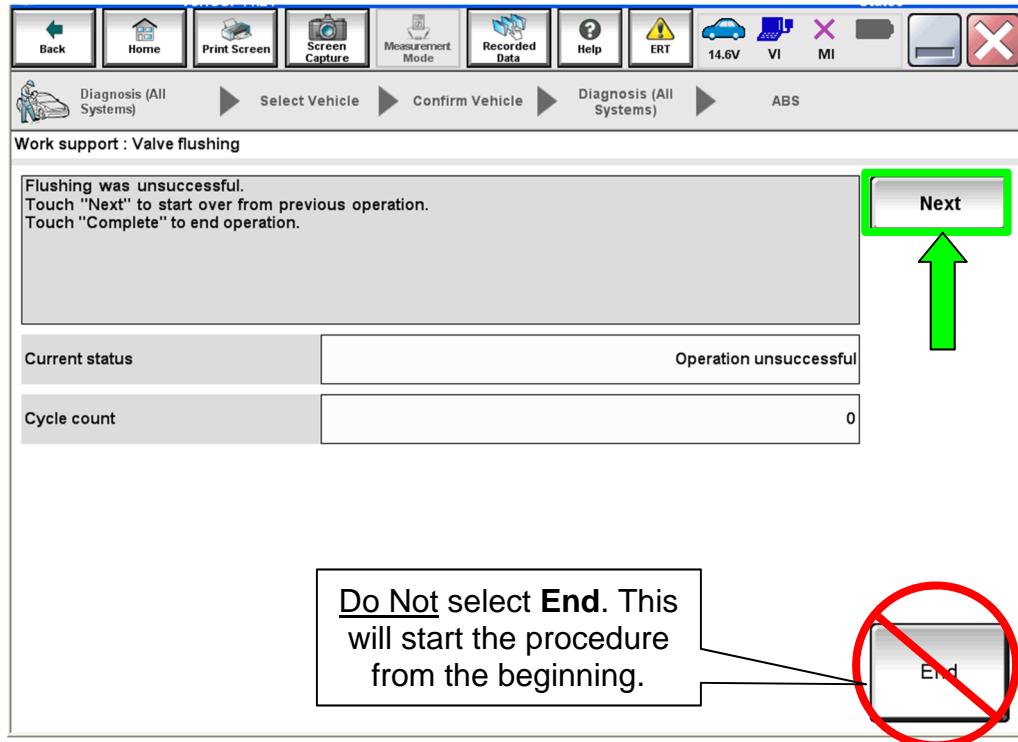

Figure 12
- If the pressure is outside this range, an error will occur as shown in Figure 12.